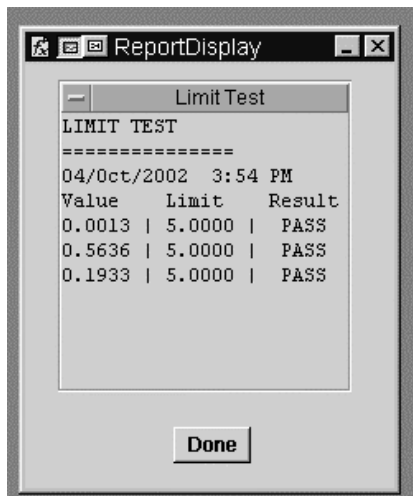

Figure 14.7. The operator interface after running
16. Save your LAB14-1 program again. Run this program; it should look like Figure 14.7.